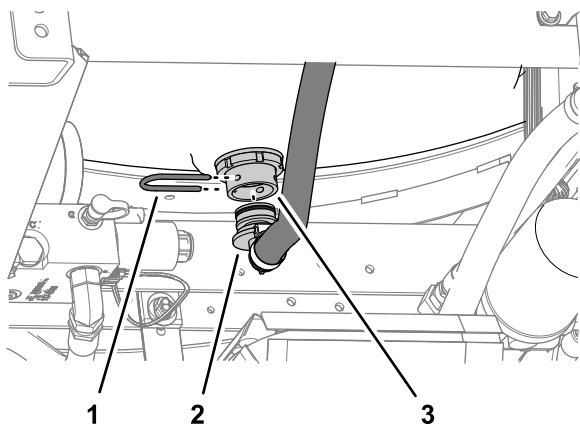

Figure 3
- At the bottom of the rinse tank, remove the retainer fork that secures the 90° fitting of the supply hose to the bulkhead fitting (**Figure 3**).
- Remove the 90° fitting from the bulkhead fitting (**Figure 3**).